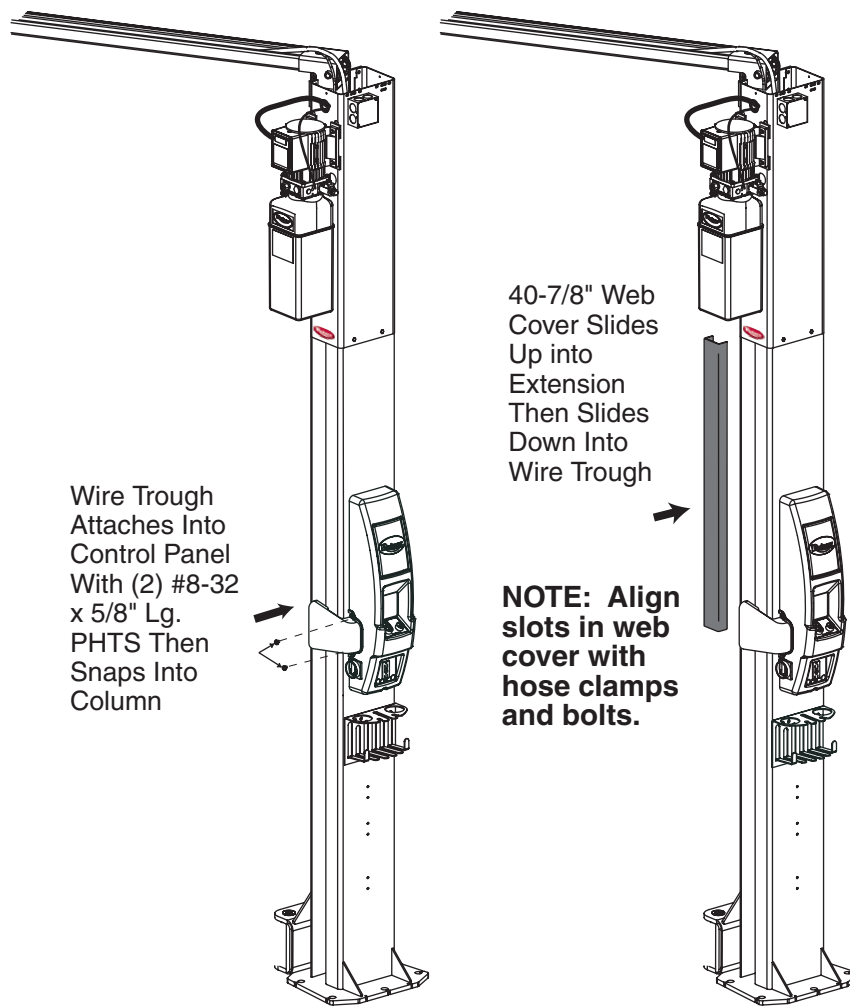

Fig. 30
24. Web Covering And Wire Trough Placement Fig. 30: